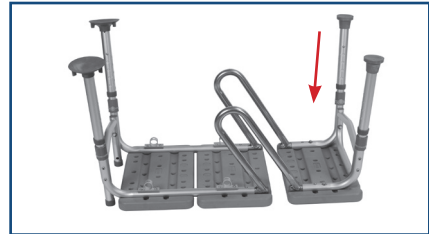

figure 4
6. Attach leg with small rubber tip (marked “B”) by depressing push pin and inserting into the receptacle with matching “B”. Repeat for second leg. (Figure 4)